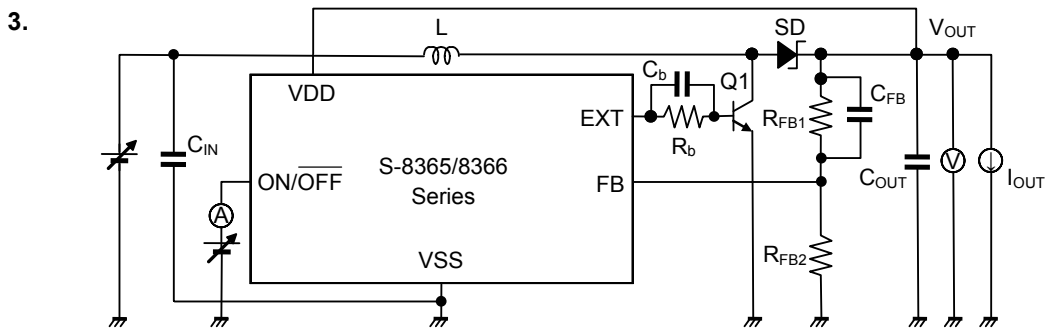

Figure 10
*2. This is the guaranteed value measured with external parts shown in “Table 10 External Parts List” and with test circuits shown in Figure 10. The operating start voltage varies largely depending on diode’s forward voltage. Evaluate sufficiently with actual device.
- *2. This is the guaranteed value measured with external parts shown in "Table 10 External Parts List" and with test circuits shown in Figure 10. The operating start voltage varies largely depending on diode's forward voltage. Evaluate sufficiently with actual device.